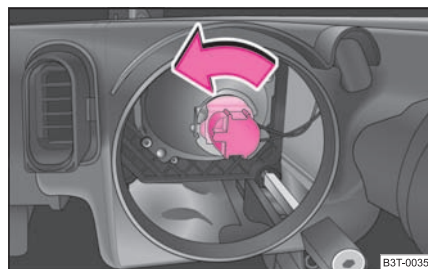

Fig. 219 Removing the light bulb for the low beam light
- Turn the connector with the light bulb up to the stop towards the left and remove ⇒ fig. 219. ▶